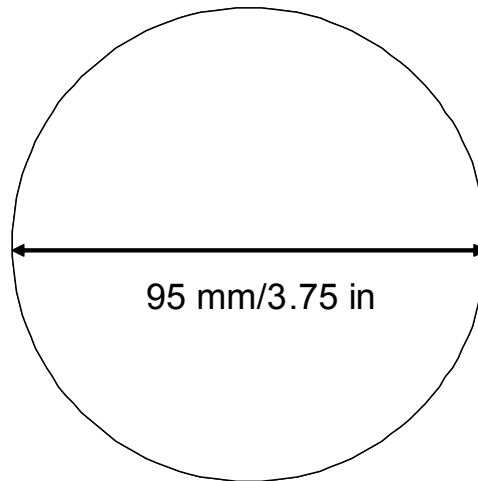

Figure 1. Drill Instructions
2. Locate a position to drill a hole with the dimensions as shown in Fig. 1